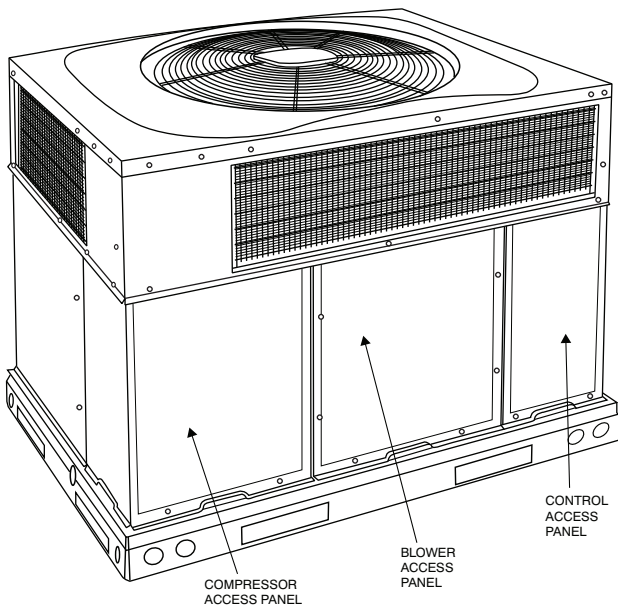

Fig. 20 - Unit Access Panels
- a. Remove blower access panel (see Fig. 20).
- g. Reinstall blower access panel (see Fig. 20).
1. Remove control access panel (See Fig. 20).
Remove blower access panel (see Fig. 20). Limit switch is located on the fan partition.
3. Remove control access panel (See Fig. 20).
Remove access panels (see Fig. 20) to locate all the electrical controls and wiring. Check all electrical connections for tightness. Tighten all screw connections. If any smoky or burned connections are noticed, disassemble the connection, clean all the parts, re-strip the wire end and reassemble the connection properly and securely.